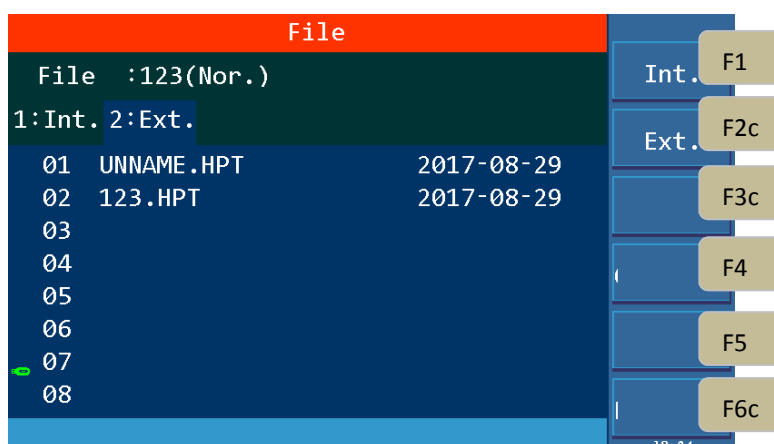

Figure4-24 External File Interface
1. Press [FILE] key to enter the file management interface, as shown in Figure 4-24.